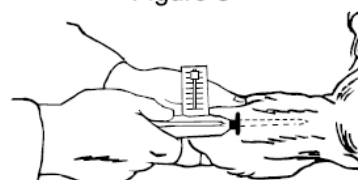

Figure 4
- Upon penetration, the needle should be fully inserted (**Figure 4**) between the skin and cartilage, avoiding major blood vessels. Full insertion of the needle is important to maximise implant retention.